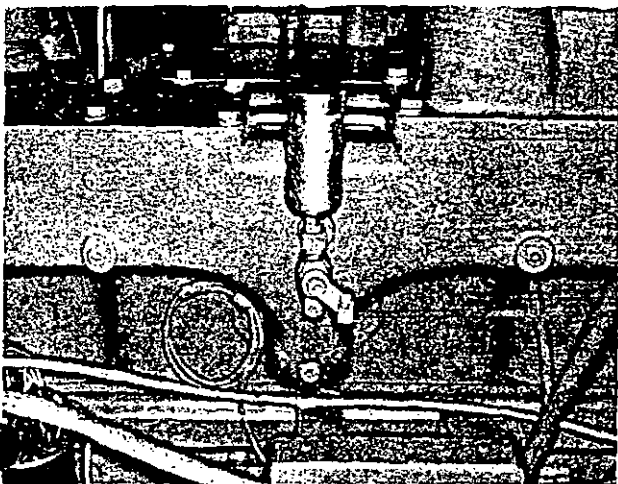

Fig. 2-5, N11841. Ether compound metering equipment
1. Close shut-off cock (1, Fig. 2-5). If properly installed, the spring will hold it closed.
2. Remove cap and insert capsule (2) of starting fluid.
3. Push cap (3) down sharply to puncture capsule and tighten one-fourth turn.